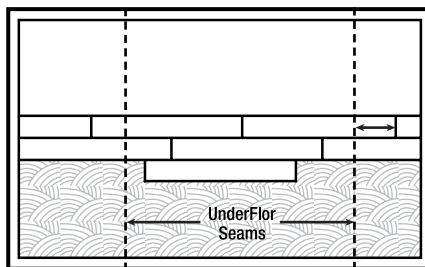

Fig. 10
**Only Impact and Endurance are recommended for installation over Underflor.** Install Underflor with the vinyl side down just prior to installation of finished flooring. Always install Underflor running perpendicular to the long dimension of the product. Install Underflor with joints positioned at least 4" away from the seams in the underlayment. Install planks with staggered end joints positioned at least 2" away from the seams in the Underflor (Fig. 10).